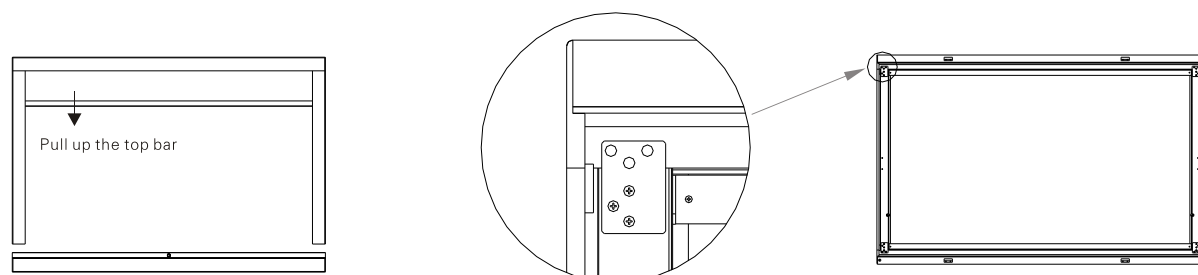

figure 3
3.The installation of low bar is the same as top bar. Notice: please pull up the top bar to a suitable distance and keep it when operating this step, otherwise, the low bar can not be pulled out, and then the installation is completed (figure 3).